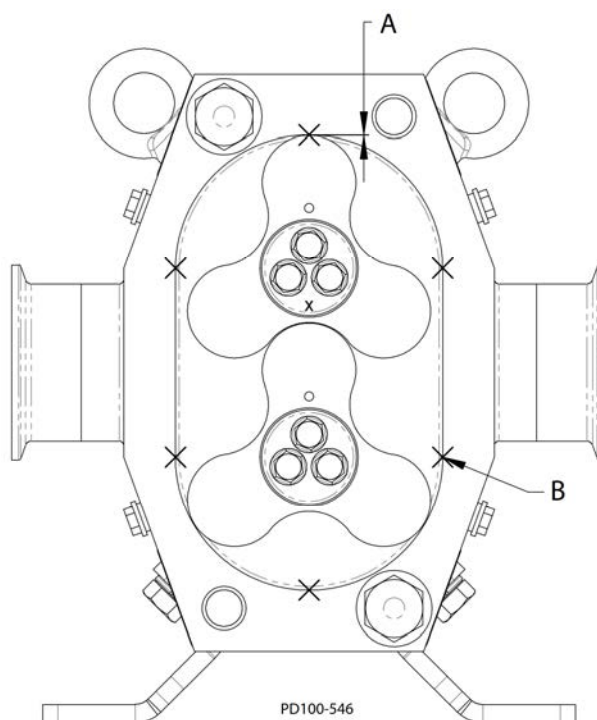

Fig. 64: Radial Clearance Check
1. With the rotors synchronized, measure the radial clearance of each lobe (Figure 64, item A) and verify that the clearance falls within the range shown in Table 12.
2. Check clearance at all six points in the body as shown. See Figure 64, item B.